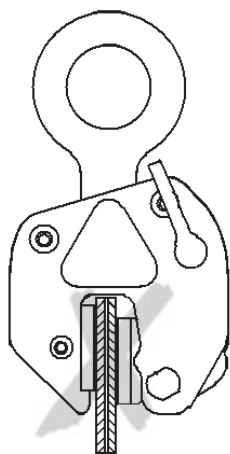

Fig. 2
- Only one sheet metal plate may be transported at a time with the load lifting attachment (Fig. 2).